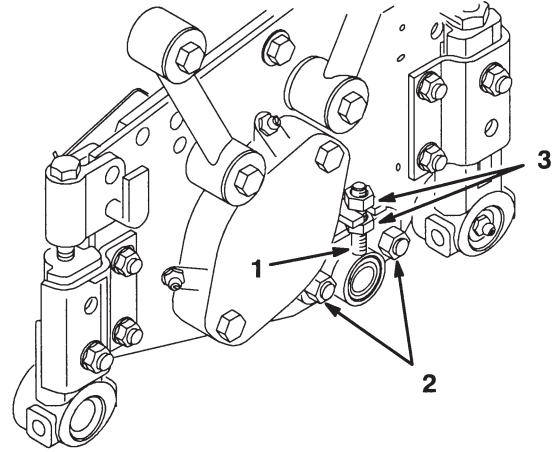

Figure 5
6. Loosen the two lock nuts securing the bedbar adjuster to the cutting unit side plate (Fig. 5).
7. Adjust the nuts to move the bedbar adjuster up or down until paper is cut along the entire bedknife surface, when the bedknife adjustment knob is adjusted to no more than two clicks beyond first contact of reel bedknife (Fig. 5).